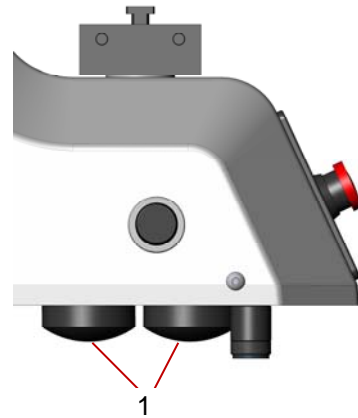

Fig. 8.04
- Turn the battery compartments **1** (Fig. 8.04 / 8.05) under the electric Crimping Machine CS 300 to open them.
- Close battery compartments **1** (Fig. 8.04 / 8.05) by turning them.